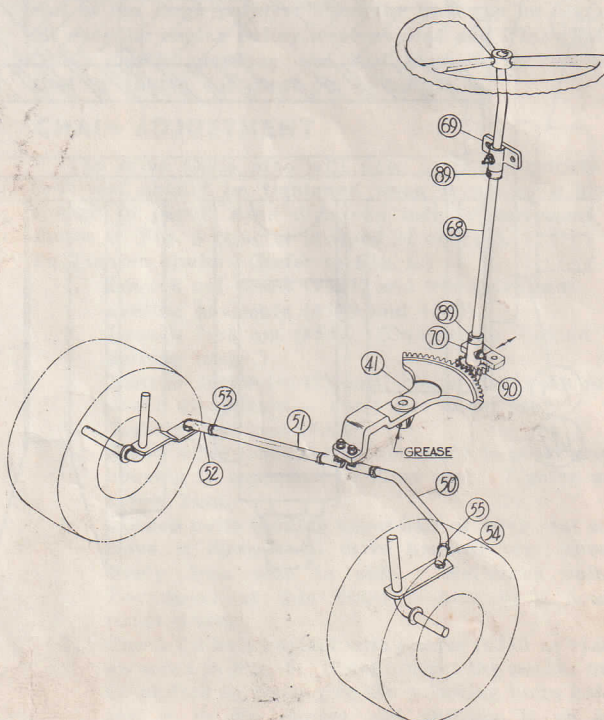

FIG. 9 Steering Gear
- Adjustments to correct slack movement, hardness of steering, and centering of steering wheel may be required. See Figure 9.